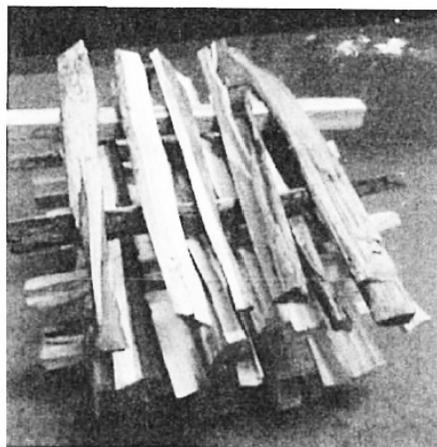

Figure 27. Criss-Cross Kindling Pattern
1. Cut and split kindling pieces approximately 16” long. The recommended piece size is 1/2” - 3/4” in cross section. The kindling should be very dry and the total weight would be about 4-1/2 lbs. if hardwood. A recommended stacking arrangement of the fuel pieces is shown in Figure 27.